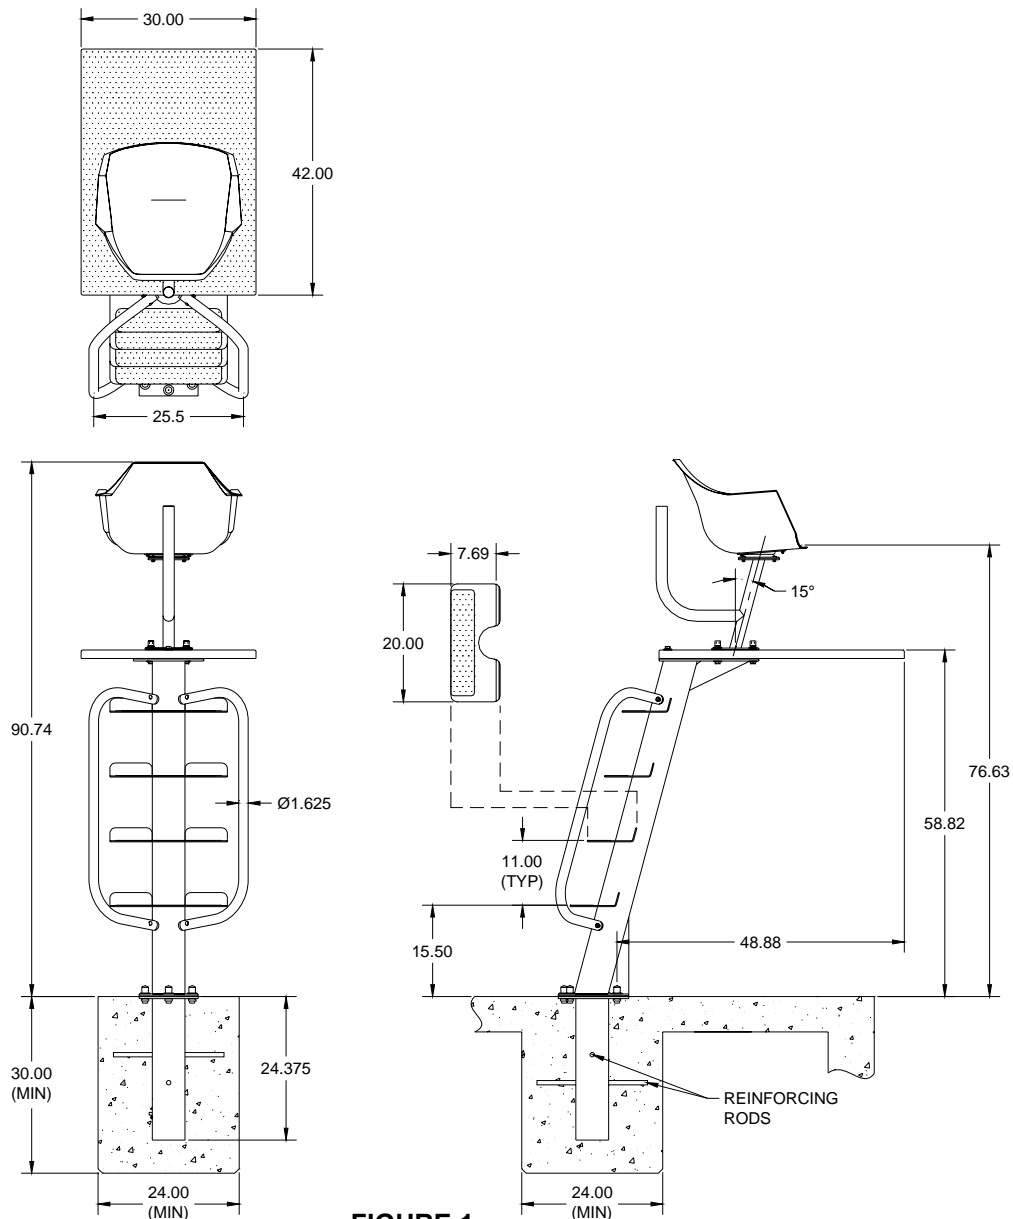

FIGURE 1
1. Begin by setting the **Base Anchor Assembly (item 1)** in concrete per local building codes. See **FIGURE 1** for minimum dimensions of concrete surrounding the anchor. Ground Anchor using provided grounding anchor per local building codes. Reinforcing rods (rebar) are customer supplied, use #3 X 16" long minimum. Top of anchor is set flush to pool deck. Ensure that the five (5) **5/8" hex head bolts (item 9)** are installed and in place while the anchor is cast in place. After anchor has partially set in concrete, remove anchor bolts and set aside for use when mounting post assembly (see step 2). Do not begin assembly of the **Cantilever Lifeguard Chair** until concrete is fully cured.